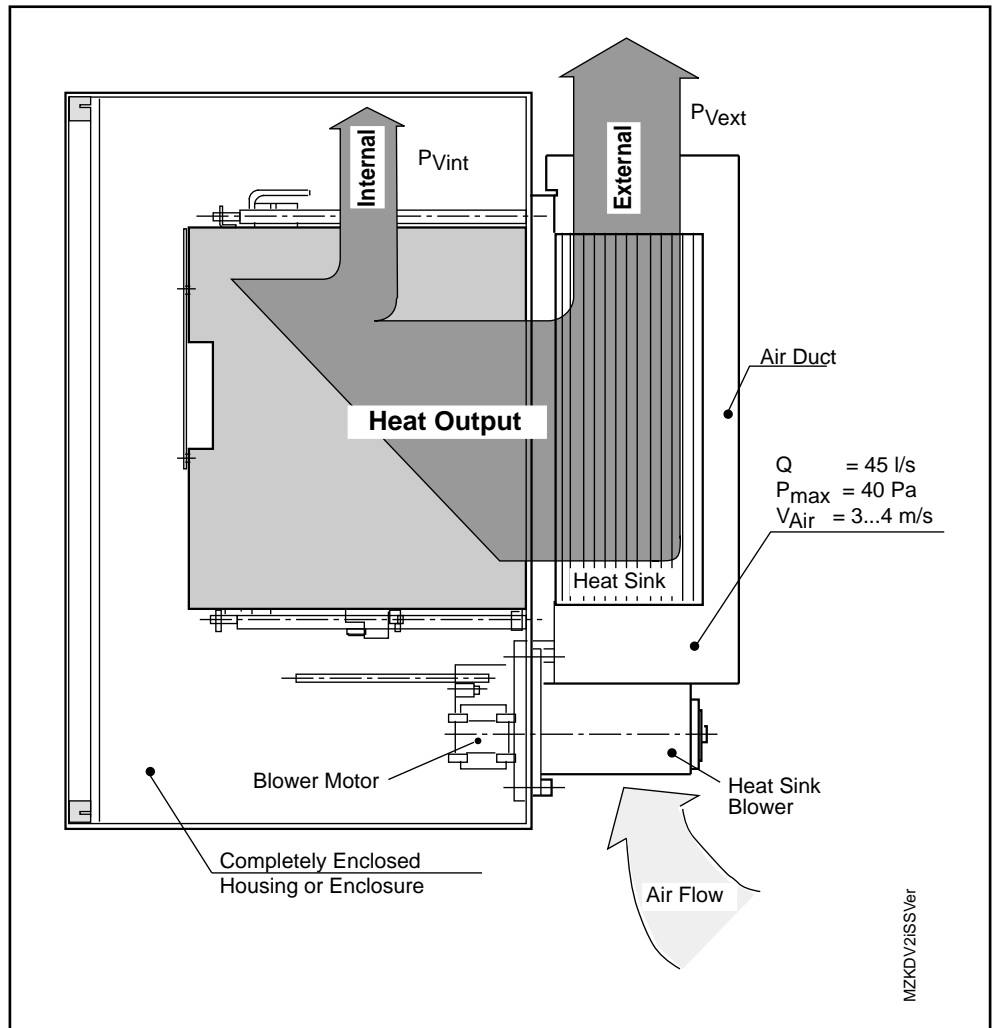

Fig. 2.16. Installation of KDV power supply modules in enclosures.
- Heat Losses in the Enclosure:* The KDV 4.1 achieves a high continuous output with low heat losses in the enclosure. The unit is designed to be installed with the heatsink extending through an opening in the back panel of the enclosure. Only about 20% of the total heat loss remains in the enclosure. The installation set provided with the unit can be used to seal off the opening to achieve an IP 65 protection classification. The costs of enclosing ventilation and cooling are significantly reduced when K-series power supplies are used. (See Fig. 2.16.)
Heat Losses in the Enclosure:	The KVR 1.2 achieves a high continuous output with low heat losses in the enclosure. The unit is designed to be installed with the heatsink extending through an opening in the back panel of the enclosure. Only about 20% of the total heat loss remains in the enclosure. The installation kit provided with the unit can be used to seal off the opening to achieve an IP 65 protection classification. The costs of enclosing ventilation and cooling are significantly reduced when K-series power supplies are used. (See Fig. 2.16.)